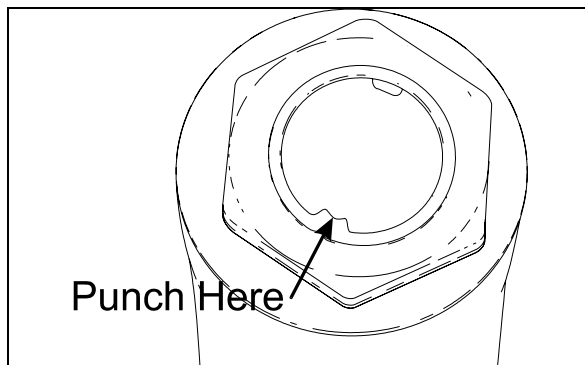

FIGURE 8: FIXING NUT PUNCH MARK
3. Lock nut with sector shaft using a punch mark into the groove (Refer to figure 8).